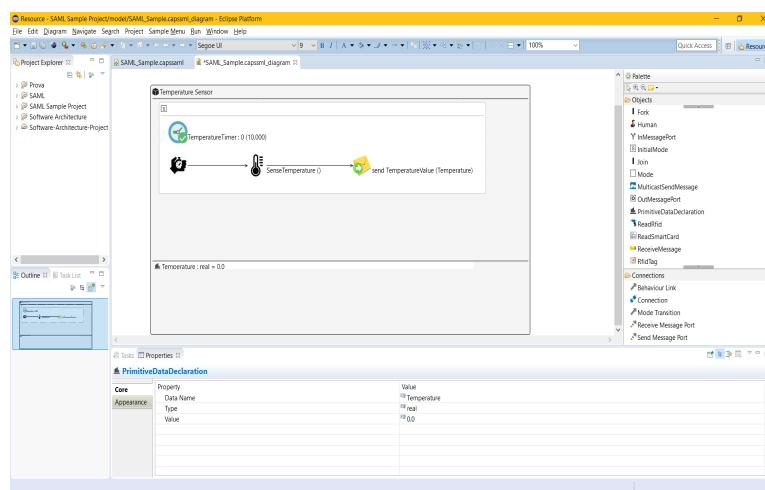

Figure 2.14: The final result
A PrimitiveDataDeclaration, let's you to specify the variables of the component (figure 2.14). Select the **TimerFired** item and in the properties section, find **Timer**, double click to the menu after it and select the name of the timer you have created. Select the **SenseTemperature** item and, in the properties view, set the following parameters.
- Now, in the connection subview of the palette select behaviour link and connect the **TimeFired** with the **SenseTemperature** (from the first to the second one). Do the same thing from the **SenseTemperature** to the message (figure 2.14);